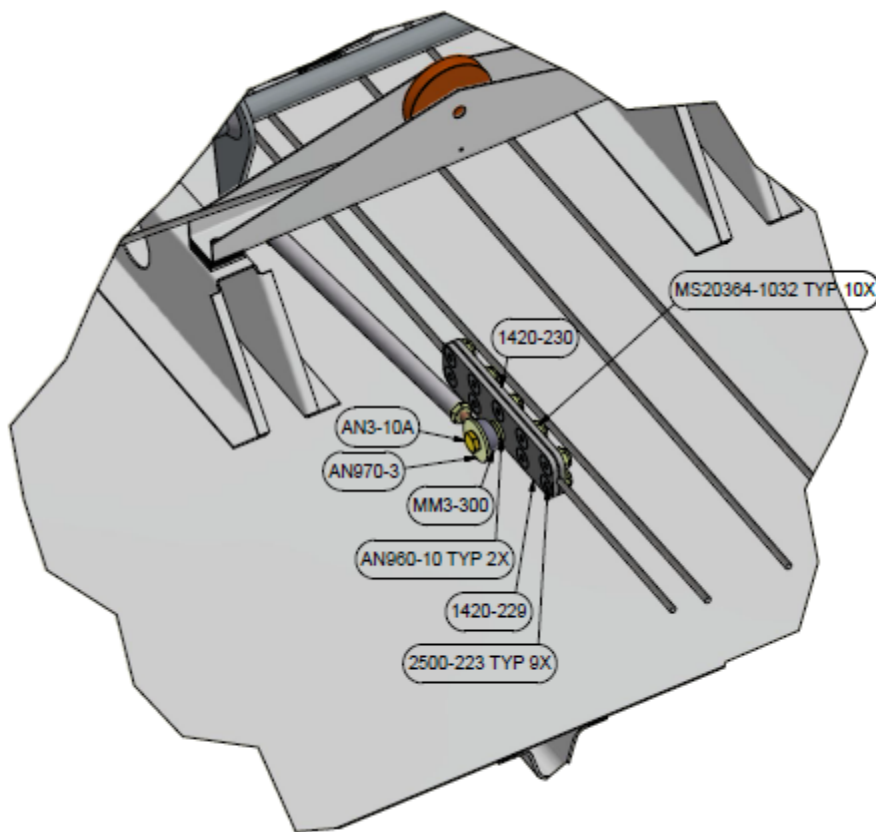

Figure 2-25
- 1.38. Loosely assemble the pitch cable clamp assembly around the elevator cable as shown in Figure 2-25 so that the clamp will freely move on the elevator cable.